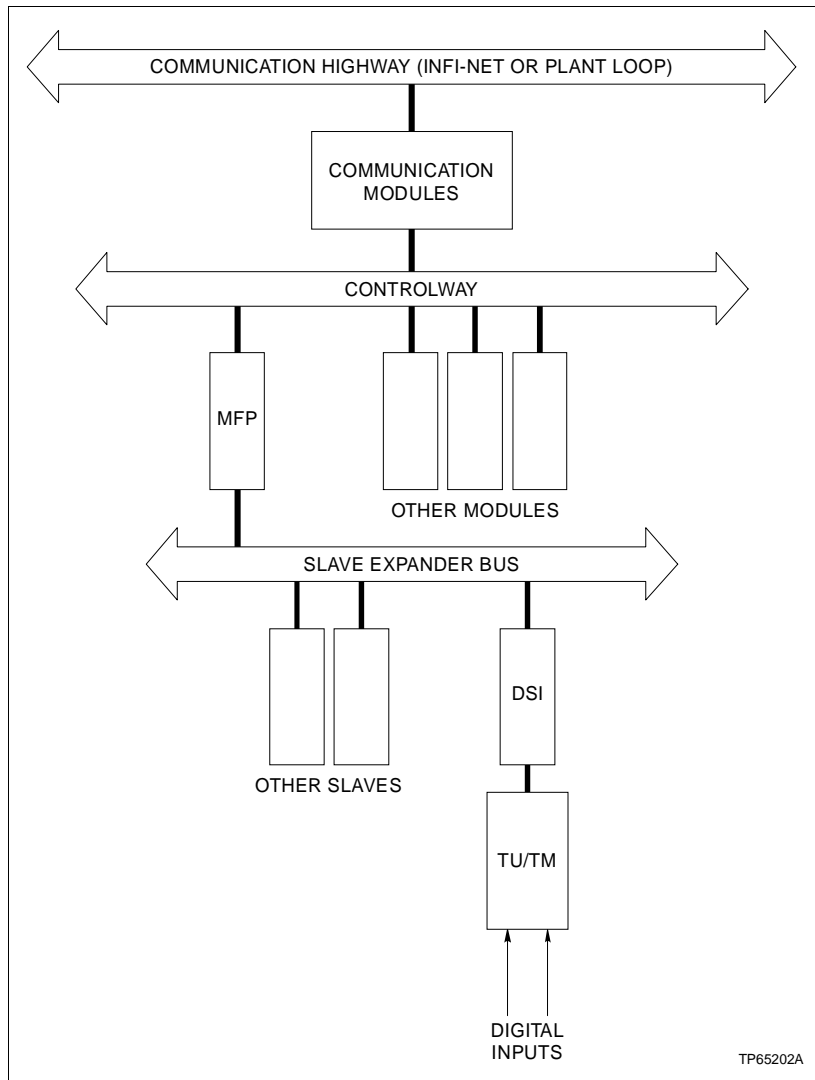
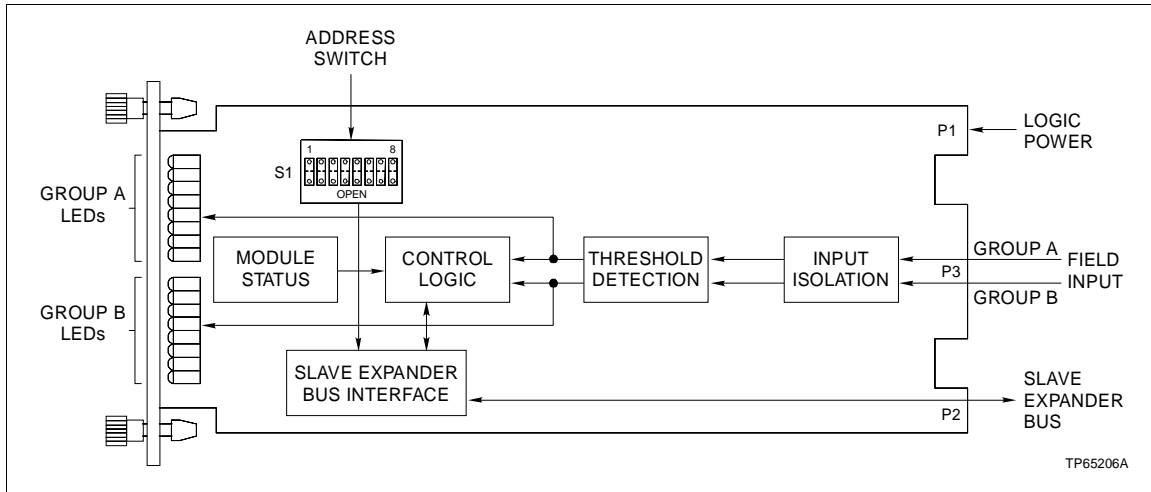

Figure 1-1. Infi 90 Communication Levels
Figure 2-1. Digital Slave Input Module Block Diagram
This manual explains the purpose, operation and maintenance of the Digital Slave Input (DSI) module. It addresses handling precautions and installation procedures. Figure 1-1 illustrates the Infi 90 communication levels and the position of the DSI module within these levels.
This section explains the inputs and input circuitry, control logic, logic power and connections for the Digital Slave Input (DSI) module. The DSI is a digital input interface to a Multi-Function Processor (MFP), Multi-Function Controller (MFC), or Logic Master Module (LMM). These master modules provide the control functions. A master module communicates with its slave modules on a 12-line slave expander bus as shown in Figure 1-1. Each slave on the slave expander bus has a unique address set by its slave address dipswitch (S1) (see Figure 2-1).
Figure 2-1 shows the DSI in block diagram form to illustrate signal flow through the module. The input isolation block consists of current limiters and optocouplers to isolate the sixteen field inputs from the module circuitry. The input circuits provide 300 volts isolation between input and logic circuits, and other input channels, by using PCB trace separation to CSA standards.
The contact input signals connect to the 30-pin card edge connector (P3), shown in Figure 2-1, using a termination cable from a termination unit or module.
Function Code (FC) 84 in the master module configuration accesses the DSI on the slave expander bus. It also allows the master module to automatically read point (input) data or status data from the DSI. This data is output by the buffer circuits (control logic) to the slave expander bus interface (see Figure 2-1). The slave address in FC 84 must be the same as the address set on the slave address dipswitch (S1).
Logic power (+5 VDC) drives the DSI circuits. It connects through the top 12-pin card edge connector (P1) shown in Figure 2-1.